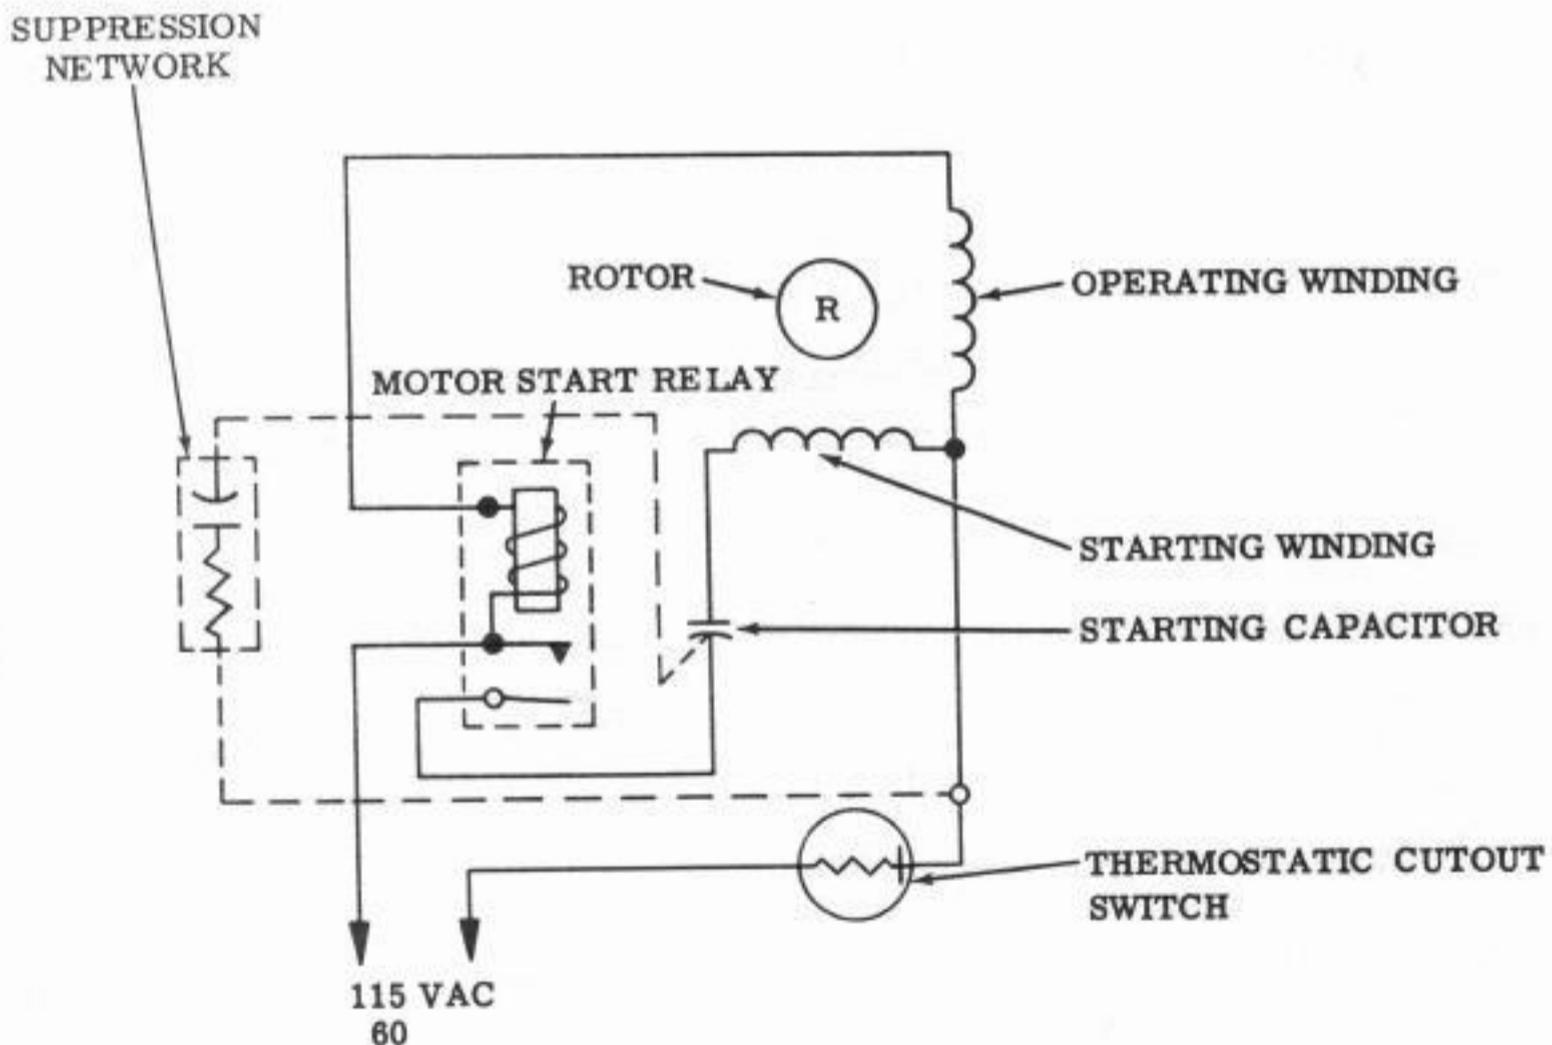

Figure 5 - Typical Synchronous Motor Unit Schematic Diagram
3.04 In some motor units a suppression network is wired in parallel with the starting winding to suppress arcing of the relay contacts (Figure 5).